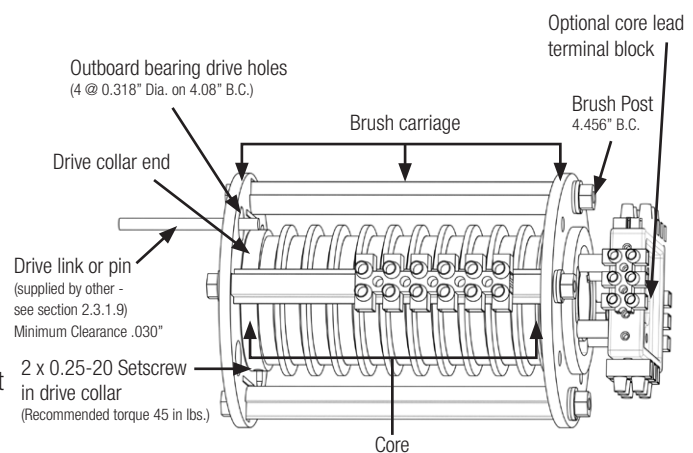

Figure 1
2.3.1.5 The brush carriage on a standard slip ring assembly has drive holes in the outboard bearings (see figure 1).
2.3.2.4 It is not recommended to drive the unit from the core lead end. (See Figure 1) Also, do not drive the core or the brush carriage by the wire leads.
2.2.4 The optional core lead terminal block provides connections to the rings. Use the appropriate crimp connectors if the terminal block is not supplied. See Section 2 (Figure 1) for cable lead terminal block illustration.